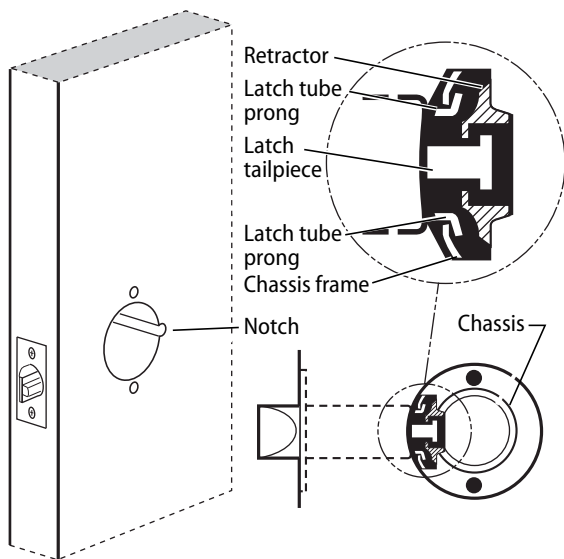

Figure 14 Installing the lock chassis and engaging the retractor in the latch
- 2 Make sure that the latch tube prongs engage the chassis frame and that the latch tailpiece engages the retractor. See Figure 14.